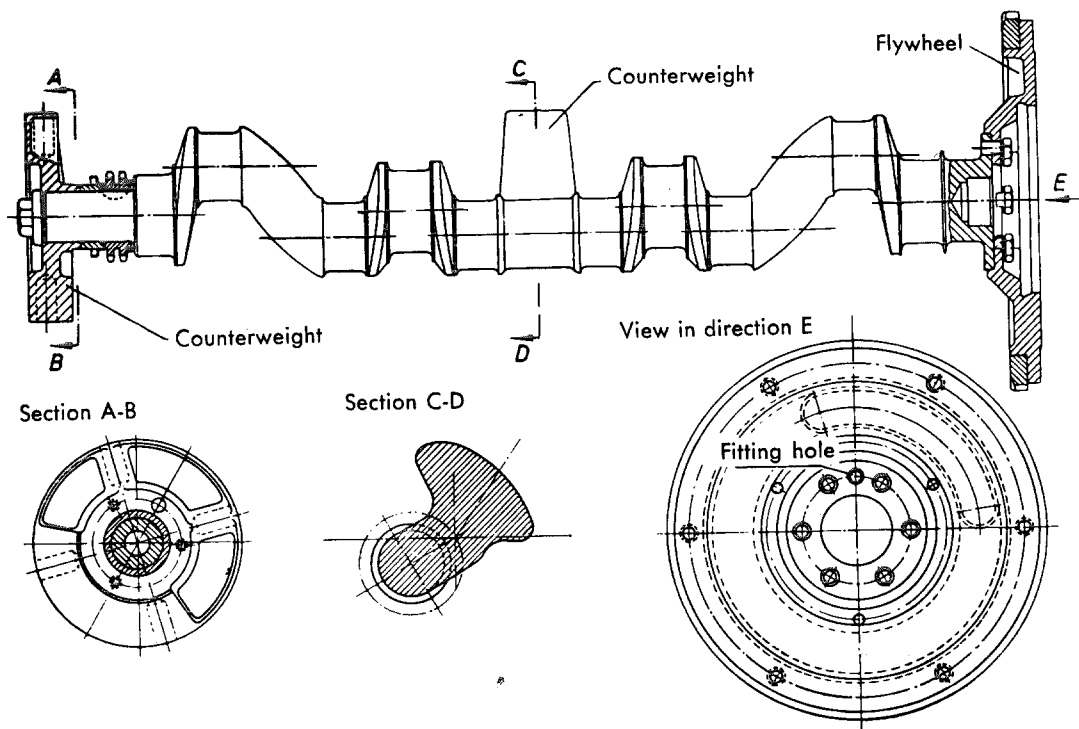

Fig. 03-5/10
1. Drill the balancing holes at the circumference on the front counterweight of the crankshaft in a radial direction using a 14 mm ϕ drill (Fig. 03-5/10). The maximum bore depth is 30 mm.
See also Figs. 03-5/5 to 03-5/9. If two holes have to be drilled side by side, the distance between bore hole centers should be 22 mm.
Note: To facilitate production the flywheels of the design used today have "humps" on the engine side into which the balancing holes are drilled at an angle of 30° (Figs. 03-5/5, 03-5/8, and 03-5/9). This can only be done on a special drilling machine and in repair shop work the balancing holes must be drilled as described above.